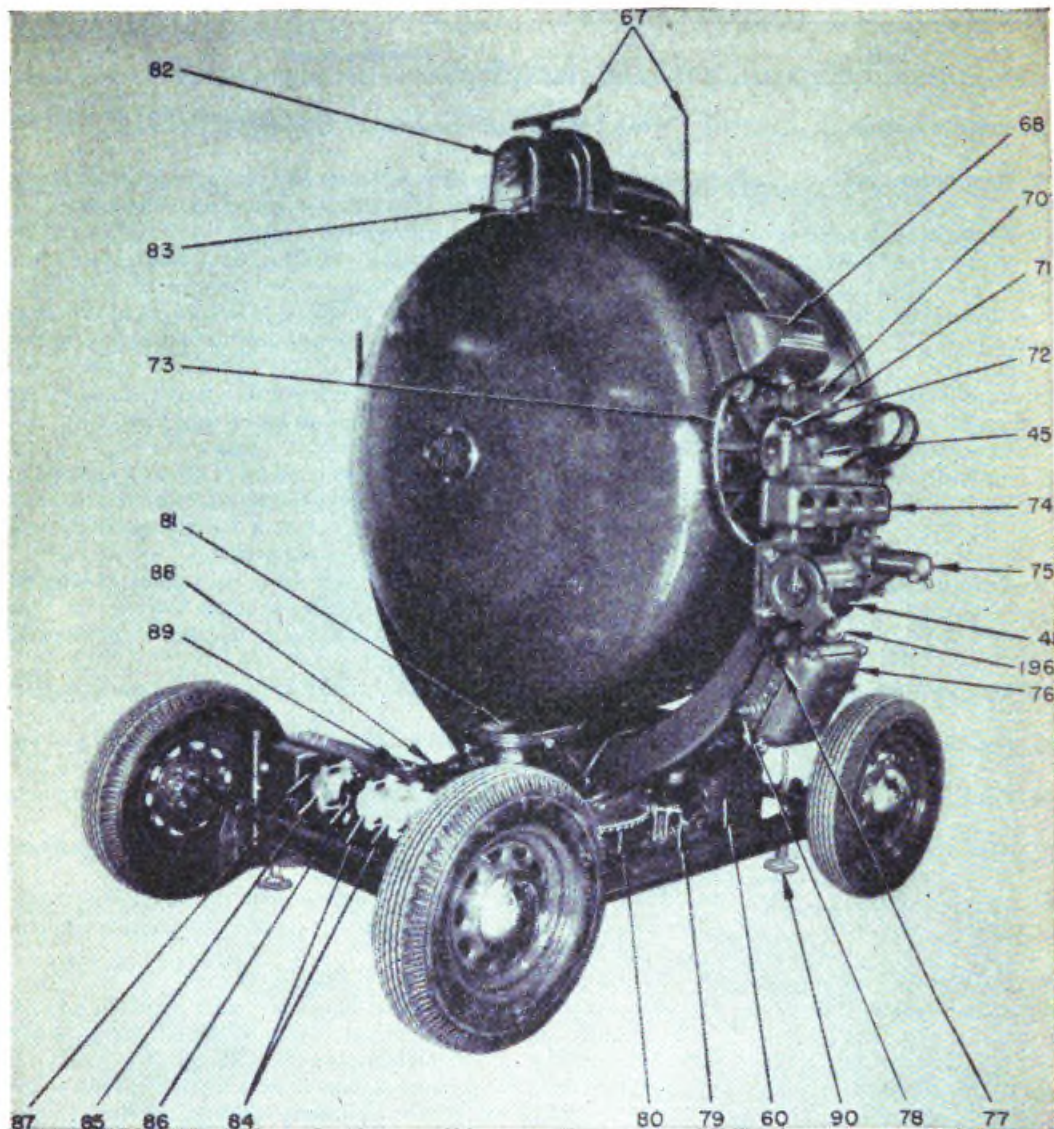

FIGURE 83.—Sperry M1941 antiaircraft searchlight (rear quarter view).
41. Elevation control motor.....	See description of part 41, figure 83.